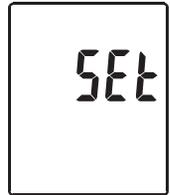
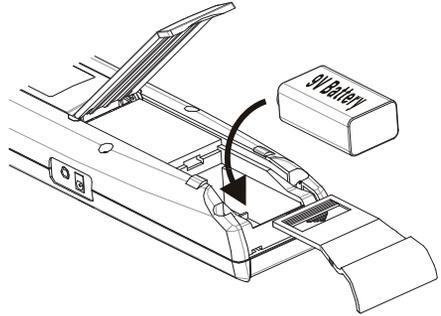

Fig.7
Fig.8
- (1) Turn off the unit.
- (2) Enter SETUP mode by pressing and holding **MIN/MAX** button and then press **⏻** power button to turn on the unit. "SET" blinks on the LCD screen. (see Fig.7)
- (3) Press CLOCK (**REC**) button to set clock.
- (4) Press **▲** (**T1-T2**) or **▼** (**°C/°F**) to adjust year, press CLOCK (**REC**) button to adjust next value (month →date→hour→minute). (see Fig.8)
- (5) When finish, press CLOCK (**REC**) button to exit SETUP mode.